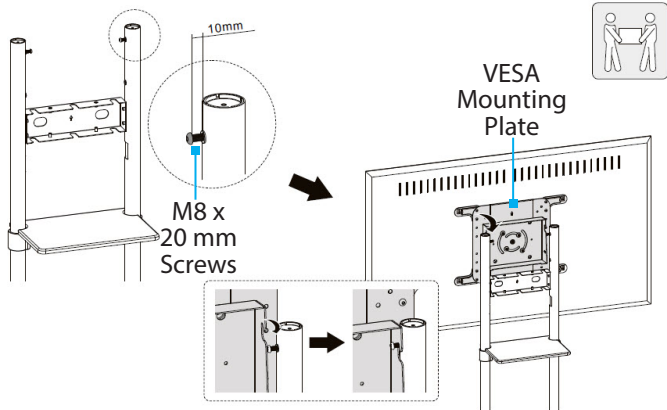

Figure 8
1. Insert two **M8 x 20 mm Screws** into two uppermost inward-facing holes in the **Upper Columns** and tighten until 10 mm of the **M8 x 20 mm Screw** threads are exposed, using the **5 mm Hex Key**. (Figure 8)